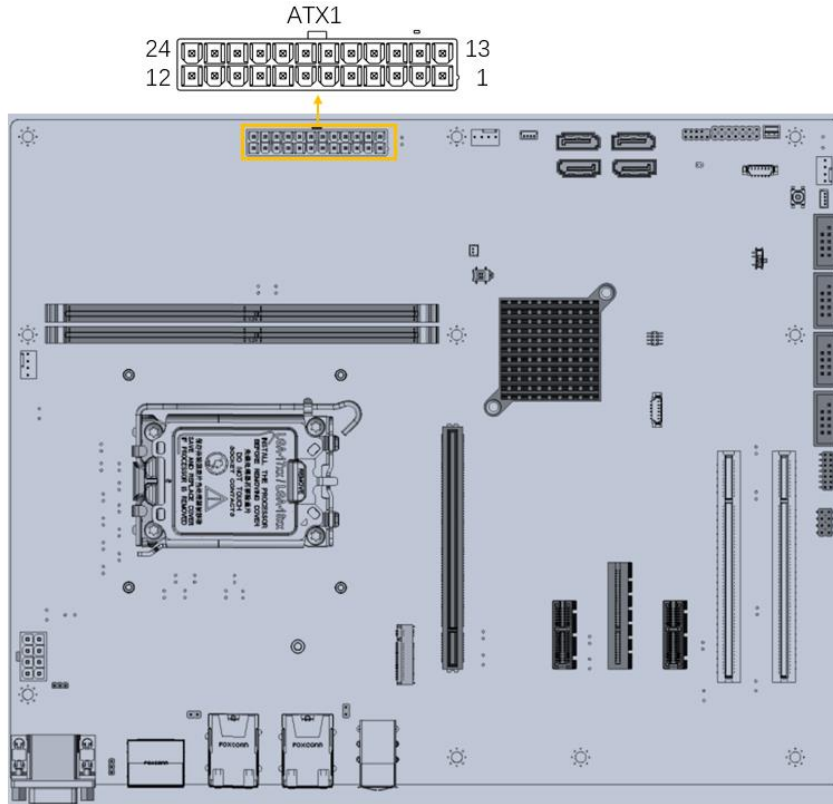

Figure 3-7: ATX Power Connector Location
- CN Location:** See **Figure 3-7**